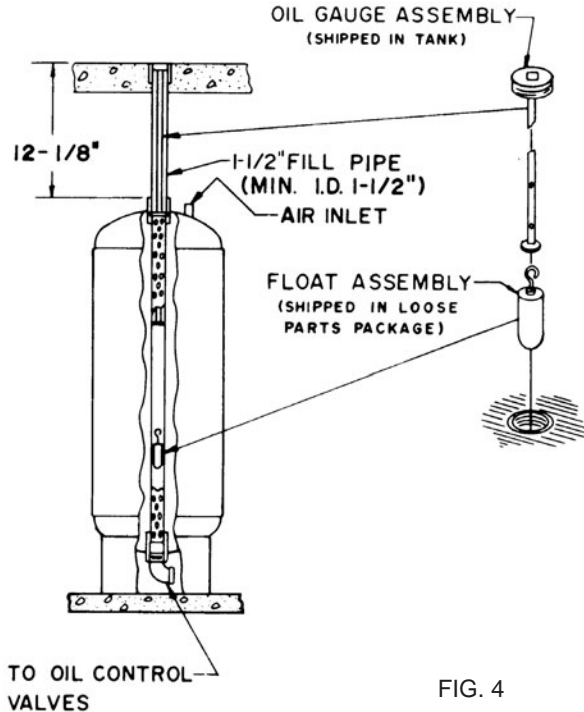

FIG. 4
F. Remove Float Assembly from the loose parts kit and insert through tank fill opening with the hook end up. Check float to be certain it is free and floating. (Ref. Fig. 4)